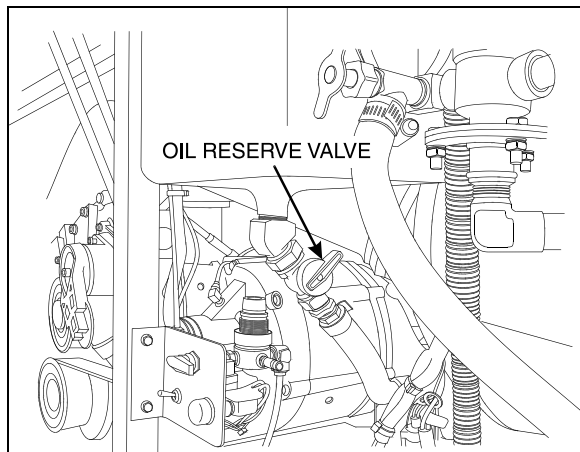

FIGURE 1: ENGINE OIL RESERVE TANK
- FIGURE 1: ENGINE OIL RESERVE TANK 3